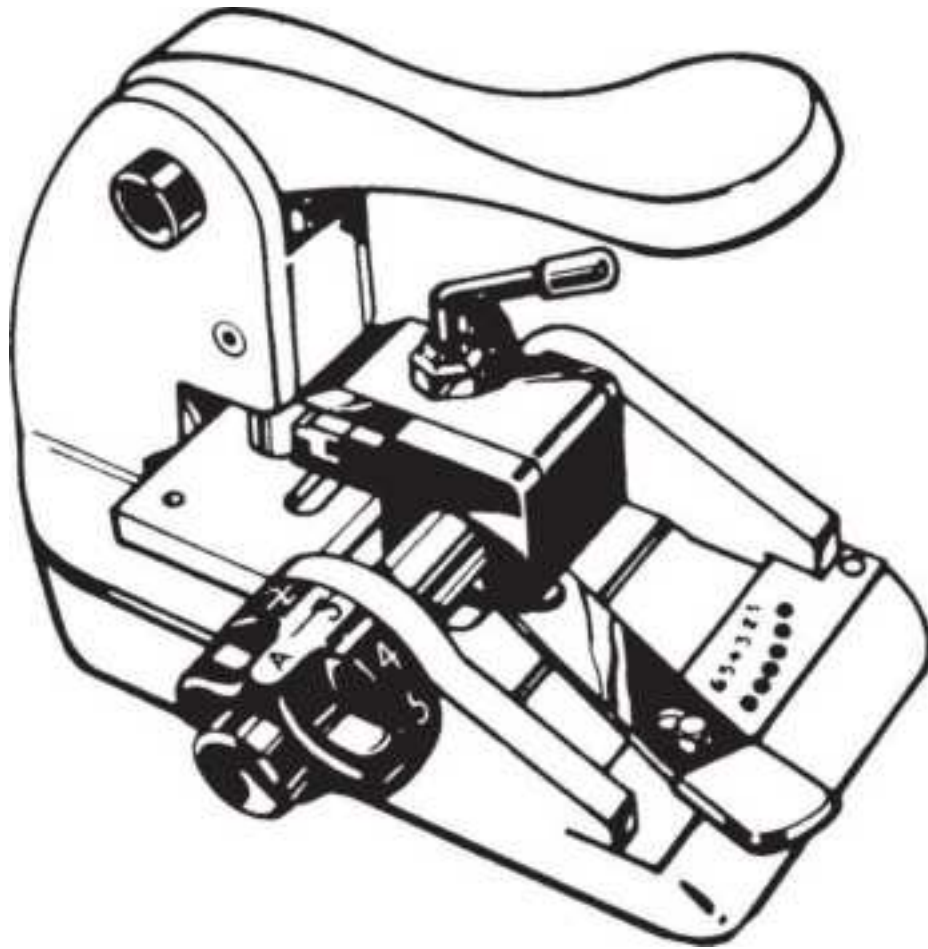

**Figure 2.30** A mechanical code key cutter lets locksmiths make accurate keys without having a key to duplicate. (*Ilco* )
- Code key cutting machine, manual (Fig. 2.30 )